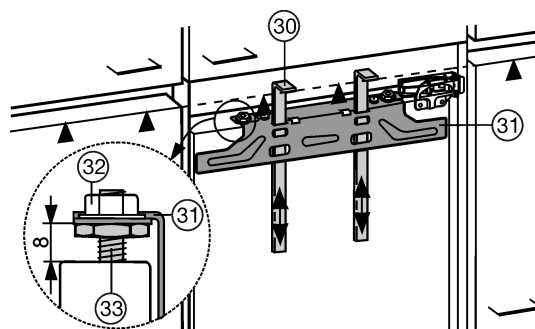

Fig. 18
The fitting aids *Fig. 18 (30)* are required for both doors. Therefore fit the unit doors one after the other.
- ▶ Slide up the assembly aids *Fig. 18 (30)* to the height of the unit door. Lower stop edge ▲ of the assembly aid = upper edge of the unit door to be fitted.